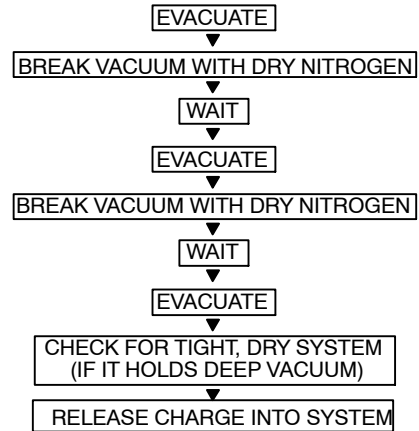

Fig. 19 – Triple Evacuation Method
Refer to Fig. 19 and proceed as follows:
5. Repeat this procedure as indicated in Fig. 19. The system is then free of any contaminants and water vapor.